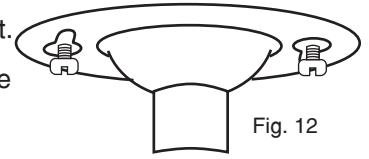

Fig. 12
V. With the motor in place and the wires out of the way, slide the canopy up to the hanging bracket. The canopy screws in the bracket will come through the large end of the slots in the canopy. Fig. 12. Turn the canopy slightly, counter-clockwise, to lock in, and tighten the screws. Remove the rubber gasket by cutting one side with knife or wire snips.